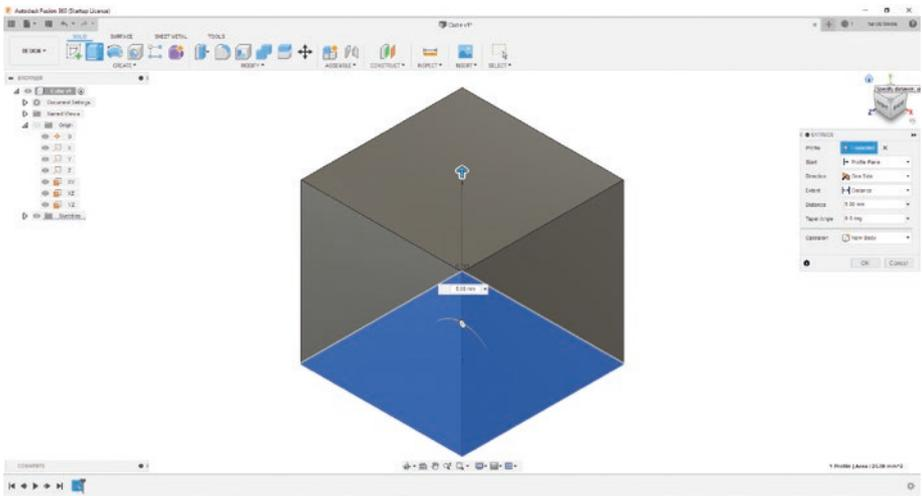

Figure 3-51. Select "HOME" on ViewCube
3. You can get a better angle on the 3D model by pressing the Shift key and holding down your mouse's center button and moving the mouse toward your computer screen. You could also select the "Home" button next to the ViewCube. See Figure 3-51.